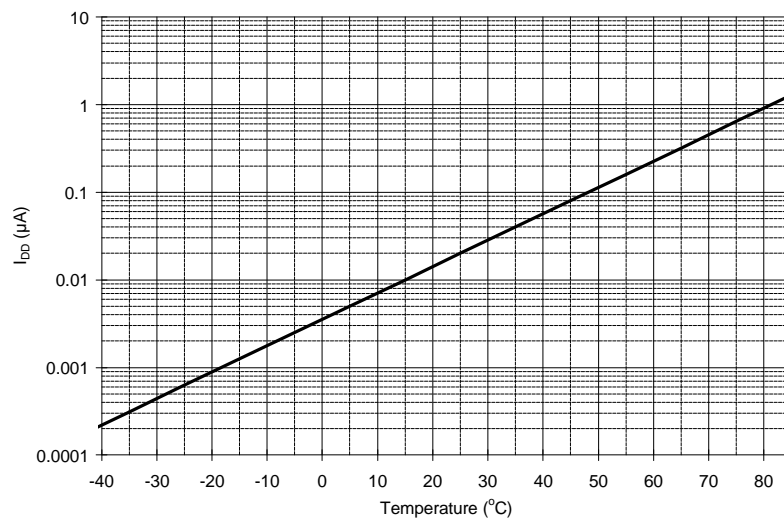

Figure 13 : Typical 'Zero Power' I_{DD} vs. Temperature (V_{DD} = 5.0V)
2. RD, RXCK, MODE 2 inputs at V_{SS} , MODE 1 input at V_{DD} . See also Figure 13.